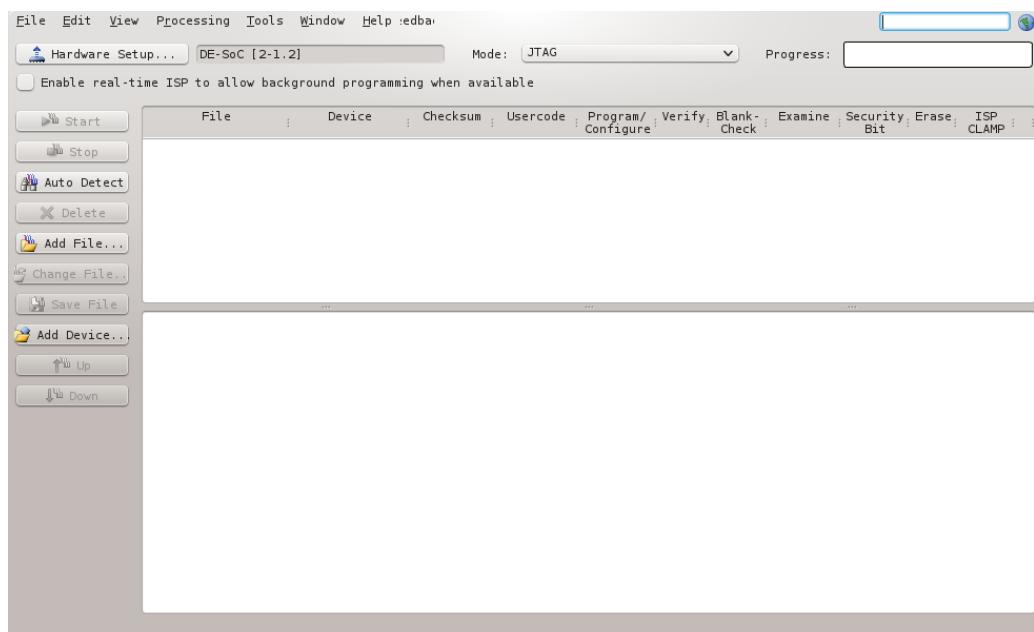

Figure 9-19. Quartus Prime Programmer
44. Choose the “Auto Detect” button on the left of Figure 9-19, then choose “5CSEMA5”, as shown in Figure 9-20.